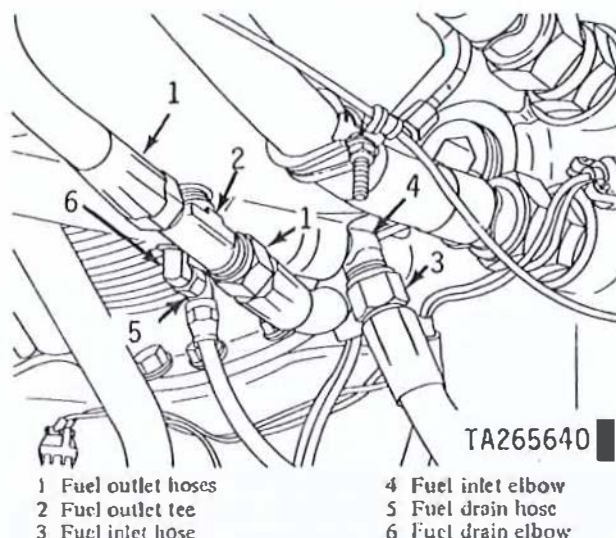

Figure 2-63. Disconnecting or connecting fuel/water separator filter fuel and drain hoses.
(2) Disconnect fuel outlet hoses (1, fig. 2-63), and remove and retain fuel outlet tee (2) for installation in replacement filter. Disconnect fuel inlet hose (3). Remove and retain fuel inlet elbow. Disconnect fuel drain hose (5), remove and retain fuel drain elbow (6).
(2) Install fuel drain elbow (6, fig. 2-63). Connect fuel drain hose (5). Install fuel inlet elbow (4) and connect fuel hose (3). Install fuel outlet tee